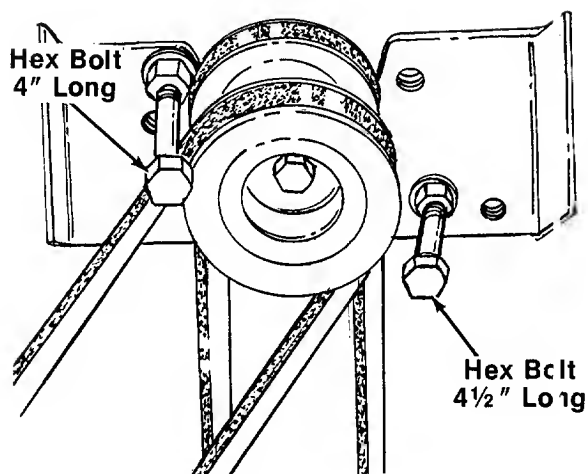

FIGURE 10.
## ATTACHING THE DECK (See figures 10 through 13)
4. Thread hex nuts (X) onto hex bolts 4" and 4 1/2" long. Place belleville washers (Y) on hex bolts (crown side of washers go against the nuts).
5. Attach hex bolts 4" and 4 1/2" long to the engine pulley belt guard bracket to act as belt keepers. Assemble in the locations shown in figure 10.